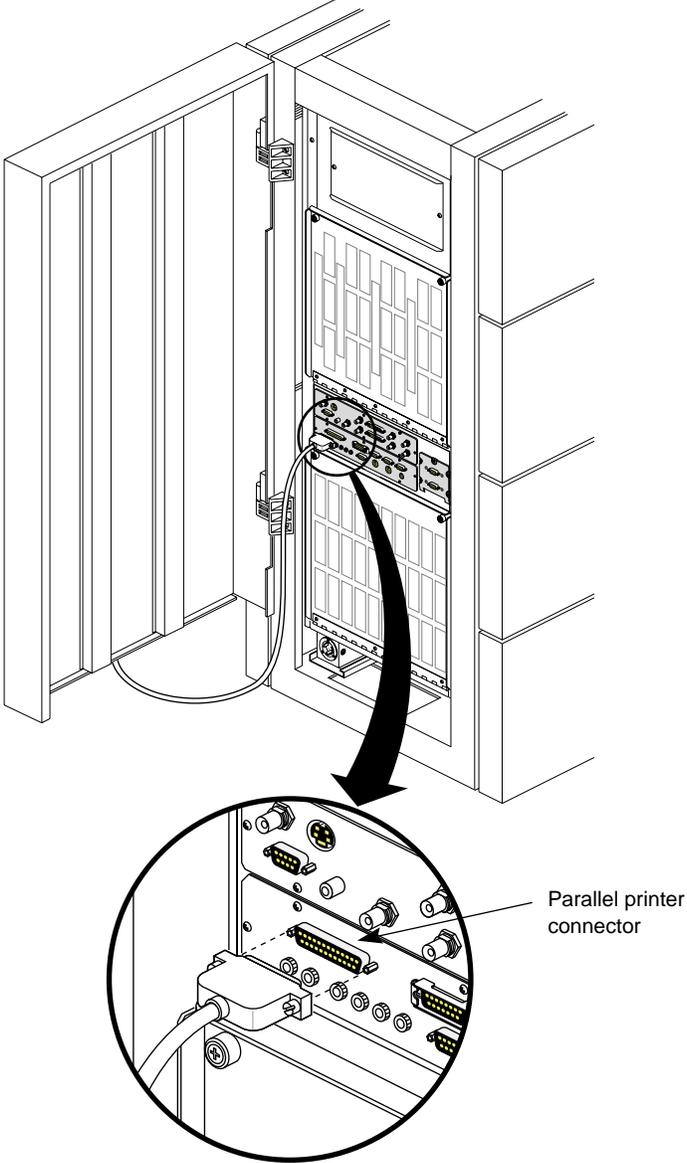

Figure 4-8 Connecting a Parallel Printer
4. Attach the free end of the printer cable to the parallel connector on the main I/O panel, as shown in Figure 4-8.